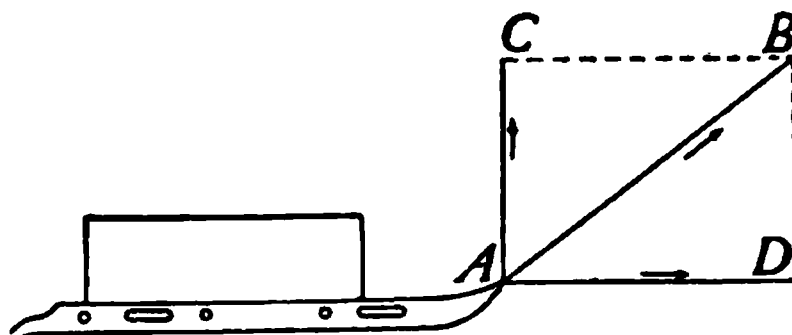

FIG. 62.— AD is the effective component.
(3) RESOLUTION OF FORCES
82. Resolution of Forces.—We have been studying the effect of forces in producing motion and the results of combining forces in *many ways*; in the *same line*, in *parallel lines*, and in *diverging lines*. Another case of much interest and importance is *the determination of the effectiveness of a force in a direction different from the one in which it acts*. This case which is called *resolution of forces* is frequently used. To illustrate: one needs but to recall that a sailor uses this principle in a practical way whenever he sails his boat in any other direction than the one in which the wind is blowing, *e.g.*, when the wind is blowing, say from the north, the boat may be driven east, west, or to any point south between the east and west and it is even possible to beat back against the wind toward the northeast or northwest. Take a sled drawn by a short rope with the force applied along the line *AB* (see Fig. 62); part of this force tends to lift the front of the sled as *AC* and a part to draw it forward as *AD*. Hence not all of the force applied along